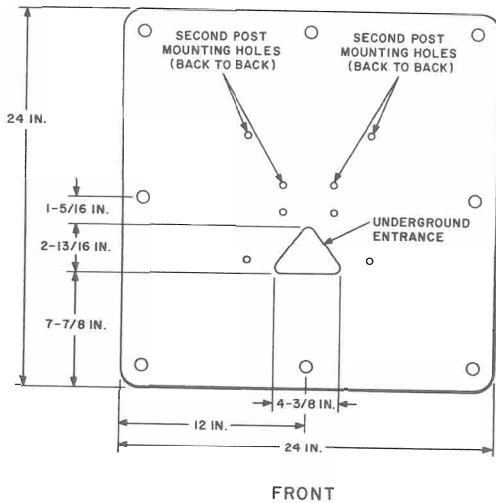

Fig. 14—B-565322 Base
3.05 Place base (Fig. 14) in the exact position that pedestal will be mounted.